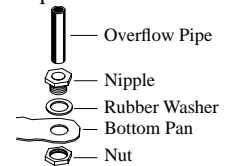

Fig. 4
- **Overflow assembly.** Remove nut and place nipple through the hole in the pan, with the rubber washer between the pan and the head of the drain nipple (Fig. 4). Screw on nut and draw up tight against bottom of pan. Insert overflow pipe in nipple to retain water. Overflow pipe may be removed to drain pan when necessary. A garden hose may be screwed on the drain nipple to drain water away from your unit.